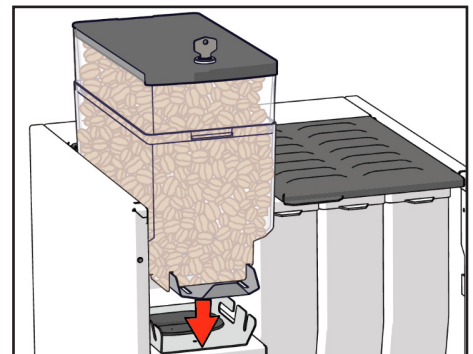

Figure 61. Replace bean canister
7. Replace the canister (see Figure 61).